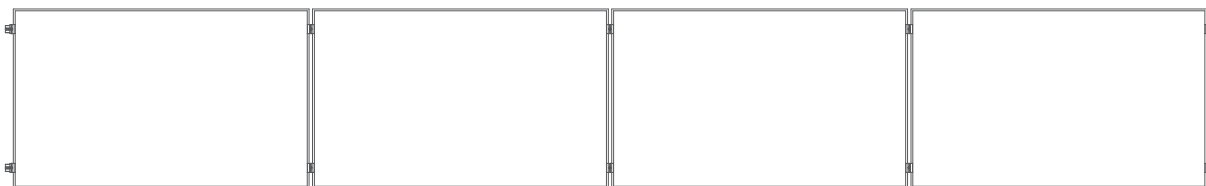
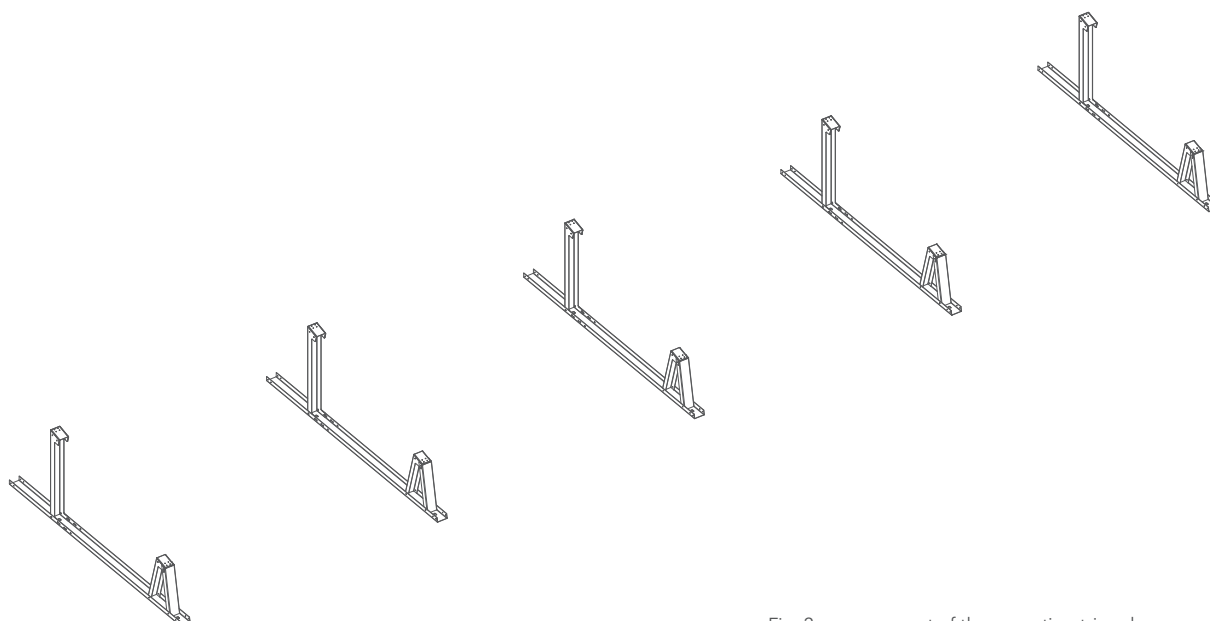

Fig. 1. plan for the arrangement of the modules
Fig. 2. arrangement of the mounting triangles
- 1 Before starting the assembly, you should determine the arrangement of the modules (Fig. 1) and the mounting triangles (Fig. 2). The way of fixing the mounting structure to the roof depends on its type and is selected individually.